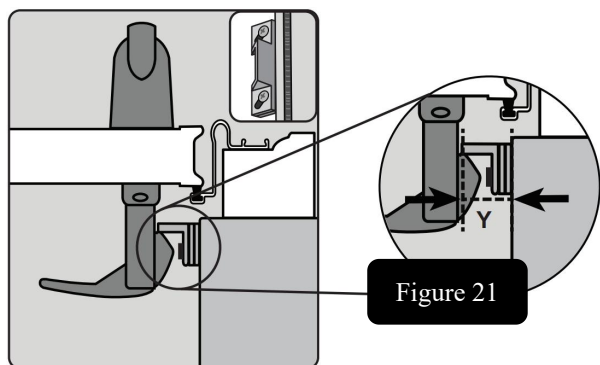

Figure 21
**NOTE:** In this step, select the appropriate latch striker based on the measurement "Y" between the door and the latch rail. When the data is smaller than 15/32", choose the short latch striker. When it falls between 15/32" and 19/32", install the short latch striker with shim(s) as needed. When it falls between 5/8" and 23/32", install the long latch striker (refer to Figure 21). When it is wider than 23/32", install the long latch striker with shim(s) as needed.